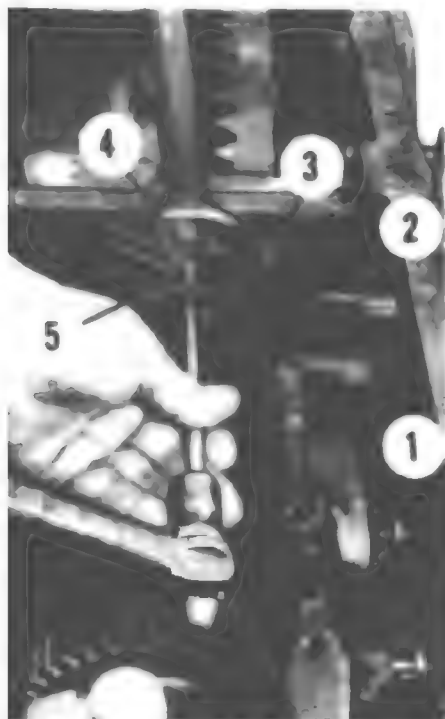

Fig. 89 - View showing procedure for removing parking brake band. Refer to test.
Disassemble the range transmission as follows: Refer to Fig. 89 and disconnect brake linkage at (2), remove pin using an open end wrench (4) to support